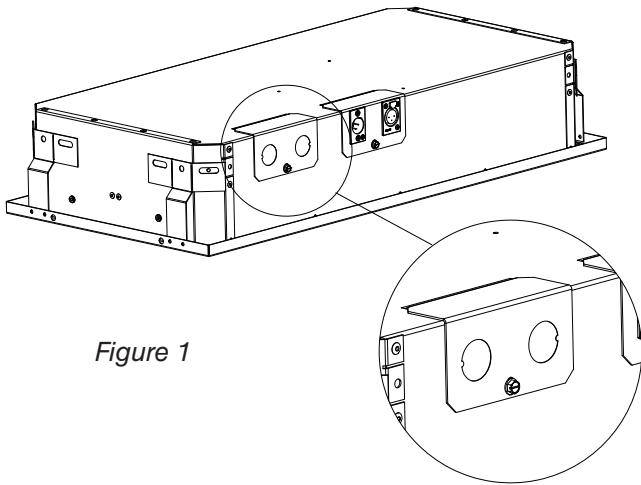

Figure 1
2. Prepare the line voltage wiring to the fixtures. You may want to partially install the power wiring before the fixture is placed in the T-bar or drywall ceiling, if access is difficult. Ensure that the supply voltage matches that required by the driver. To install the power feed, loosen the screw holding the power entry plate and remove the plate (Figure 1). Remove the knockouts as needed and install the correct type of power cabling and strain relief (not provided). Connect the wires from the feed using wire-nuts, observing the wire color coding, and re-install the knockout plate. Brightline fixtures intended for the North American market use black/white/green wires respectively for line/neutral/ground; fixtures shipped to other locations use brown/blue/green-yellow for line/neutral/ground. In most cases, it is useful to install sufficient slack in the power cable so that the fixture may be moved to an adjacent tile opening without having to extend the wiring.